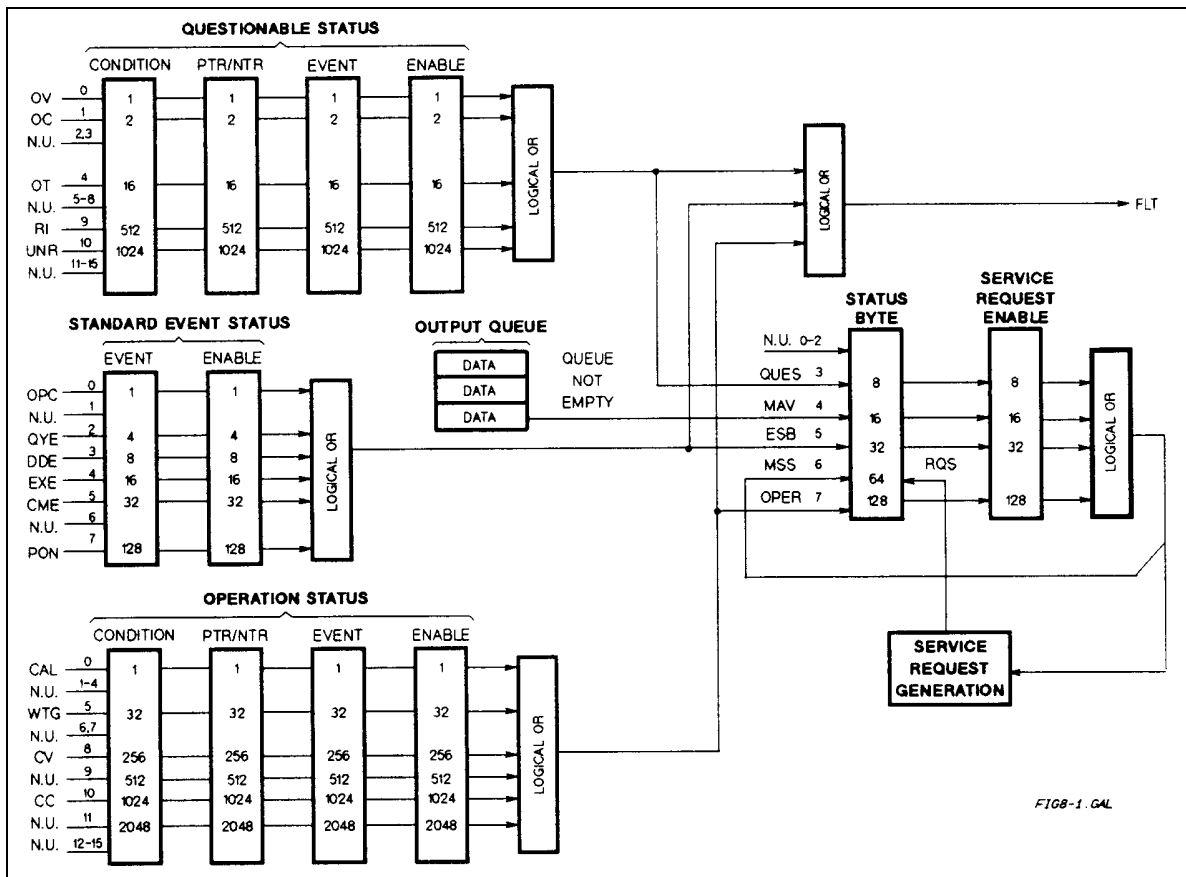

Figure 8-1. Power supply Status Model
Figure 8-1 shows the status register structure of the power supply. The Standard Event, Status Byte, and Service Request Enable registers and the Output Queue perform standard GPIB functions as defined in the *IEEE 488.2 Standard Digital Interface* for Programmable Instrumentation. The Operation Status and Questionable Status registers implement status functions specific to the power supply. Table 8-2 and Figure 8-1 show the bit configuration of each status register.
The Questionable Status registers record signals that indicate abnormal operation of the power supply. As shown in Figure 8-1, the group consists of the same type of registers as the Status Operation group. The outputs of the Questionable Status group are logically-ORed into the QUES(tionable) summary bit (3) of the Status Byte register.
Whenever a fault is detected in the power supply, it is capable of generating a FLT signal at the digital port (see Appendix F - "Digital Port Functions"). The source for the DFI signal can be any Questionable, Operation, or Standard Event status event (see Figure 8-1).
This example assumes you want a service request generated whenever the power supply switches to the CC (constant current) mode. From Figure 8-1, note that the required path is for a condition at bit 10 (CC) of the Operation Status register to set bit 6 (RQS) of the Status Byte register. The required register programming is shown in Table 8-5.